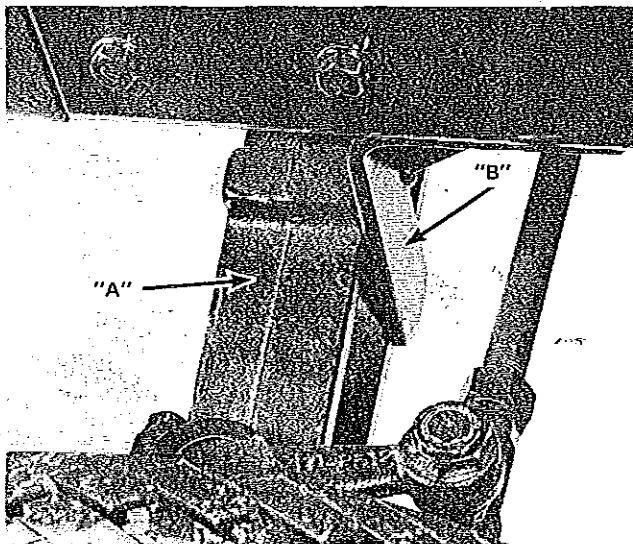

Figure 33
If the clearance between the Front axle assembly "A" and the Stop assemblies "B", Figure 33, is 1/16 inch or more, the stops must be adjusted.
B. Move Stop assemblies "B," Figures 33 and 34, up against Front axle assembly "A," Figure 33.